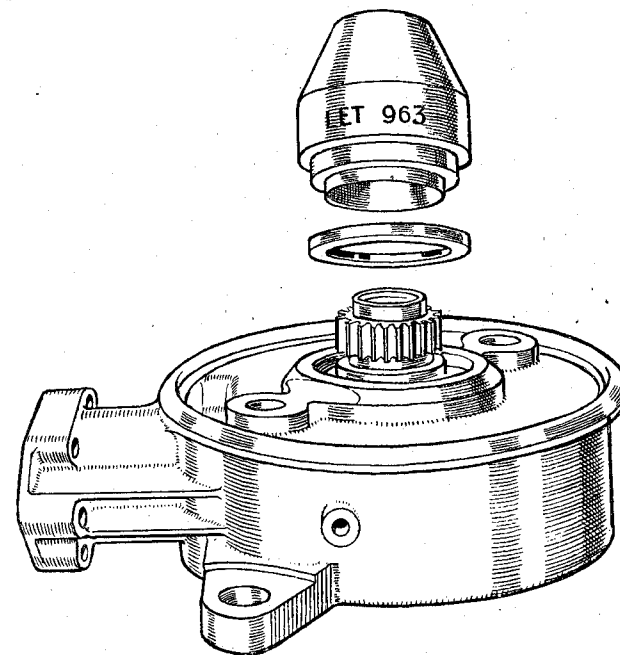

FIG. 54. Using the Special Oil Seal Tool No. LET 963 for fitting oil seal to bevel casing
**NOTE.** The bevel casing has now been modified to provide a collector for any oil which may get past the oil seal. The Service Tool LET963 must be used for housings of this type which are easily recognisable by the casing round the oil seal on the outside being circular (Fig. 54). With a half turn withdraw the tool. Refit the brake shoes and springs and refill the casing to the correct level with oil.